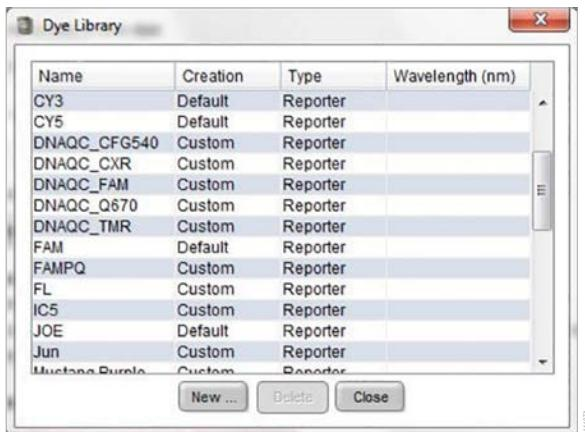

Figure 3. The New button in the Dye Library window.
8. In the Dye Library window that appears, select the “New” button (Figure 3).